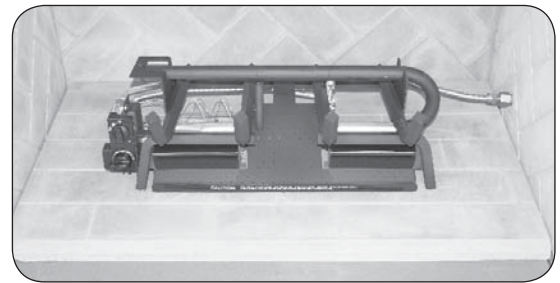

Fig. 14-2 Center burner in fireplace
3. Place the burner system in the fireplace. Center the burner in the fireplace. See Fig. 14-2.